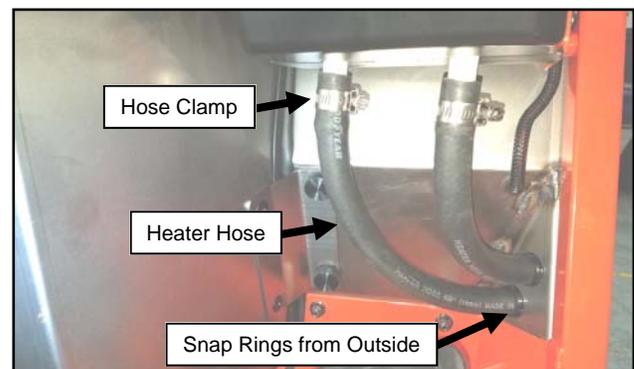

Fig. 17.2 (Snap Rings and Heater Hose)
- 17.2** From outside the cab, install both 3/4" snap bushings into the large holes in the right A-pillar floor board. Feed both ends of the 5/8" diameter hose through the bushings to the inside of the cab, connect them to the nipples on the heater, and secure them with 1" hose clamps. See Figure 17.2.